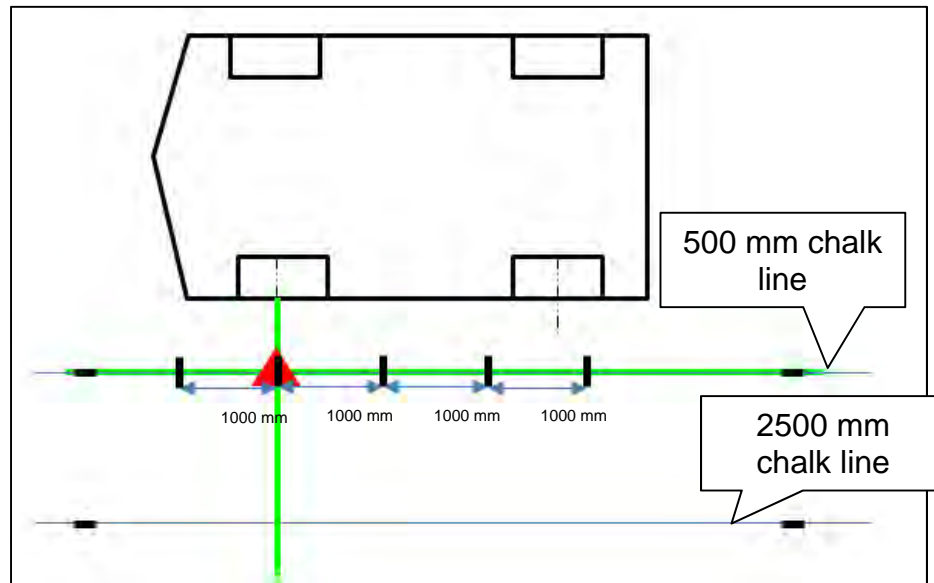
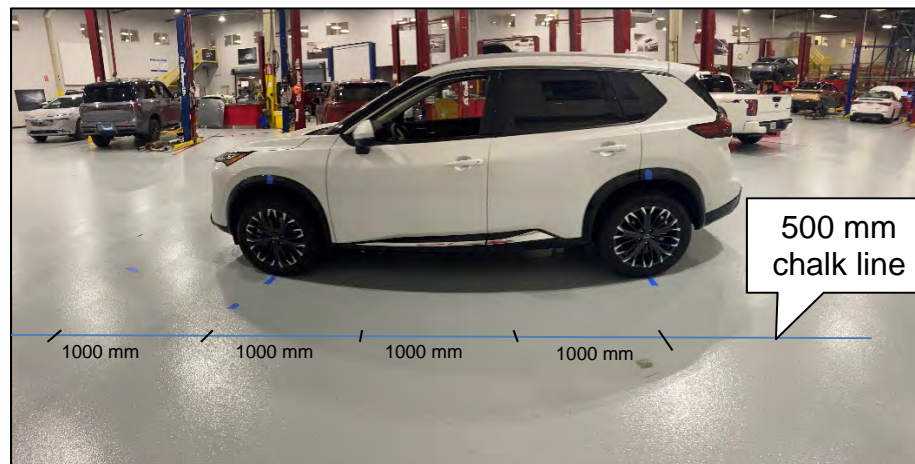

Figure 33
Figure 34
27. Measure and mark 1000 mm increments, as shown in Figure 33 and Figure 34.